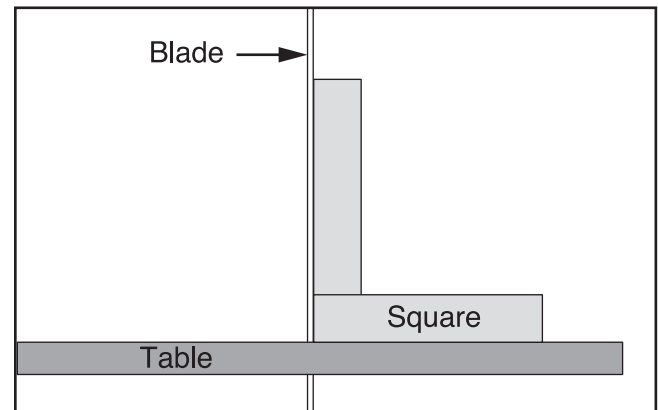

Figure 37. Squaring table to blade.
- Raise the guide post and place a machinist's square on the table next to the side of the blade, as illustrated in **Figure 37**. Adjust the table square with the blade, then secure it with the table tilt lock lever.